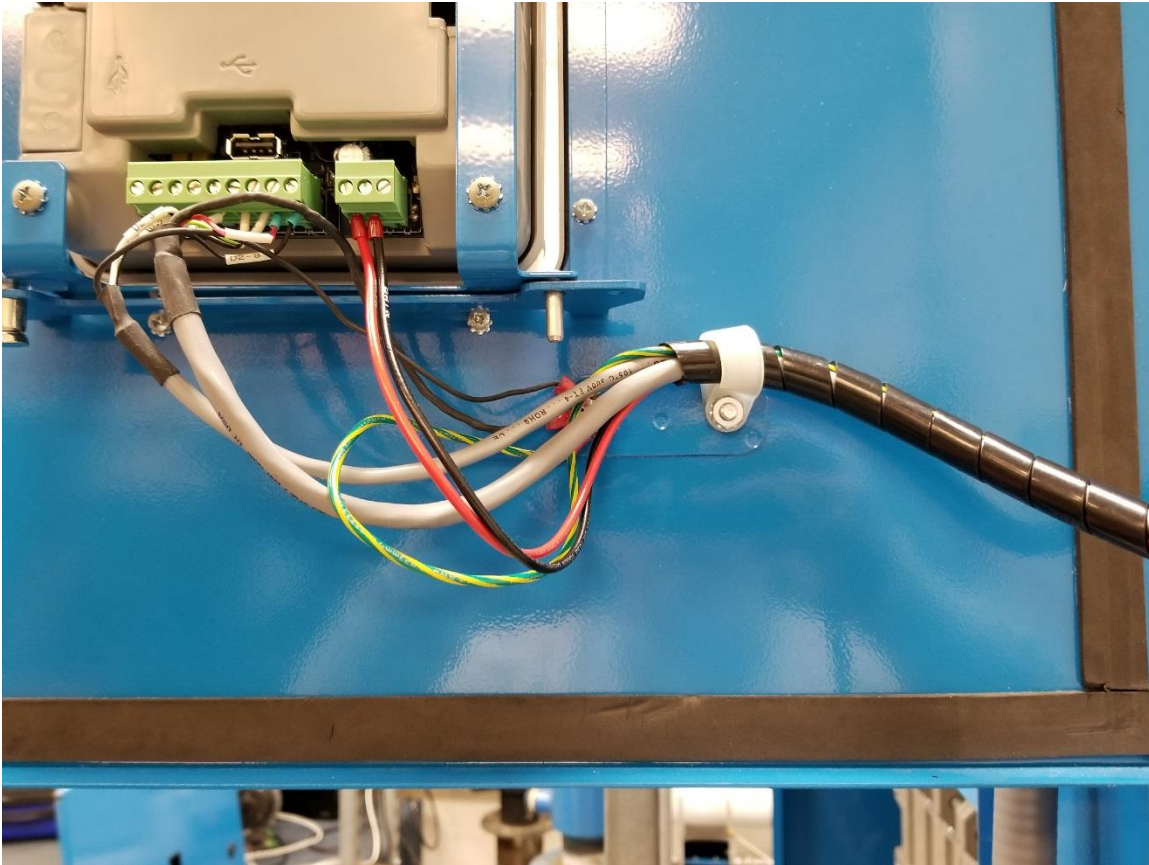

Figure 21
25. Insert green electric plug D1 and D2 into NURO control and attach all ground wires to front door ground lug shown in figure 21.